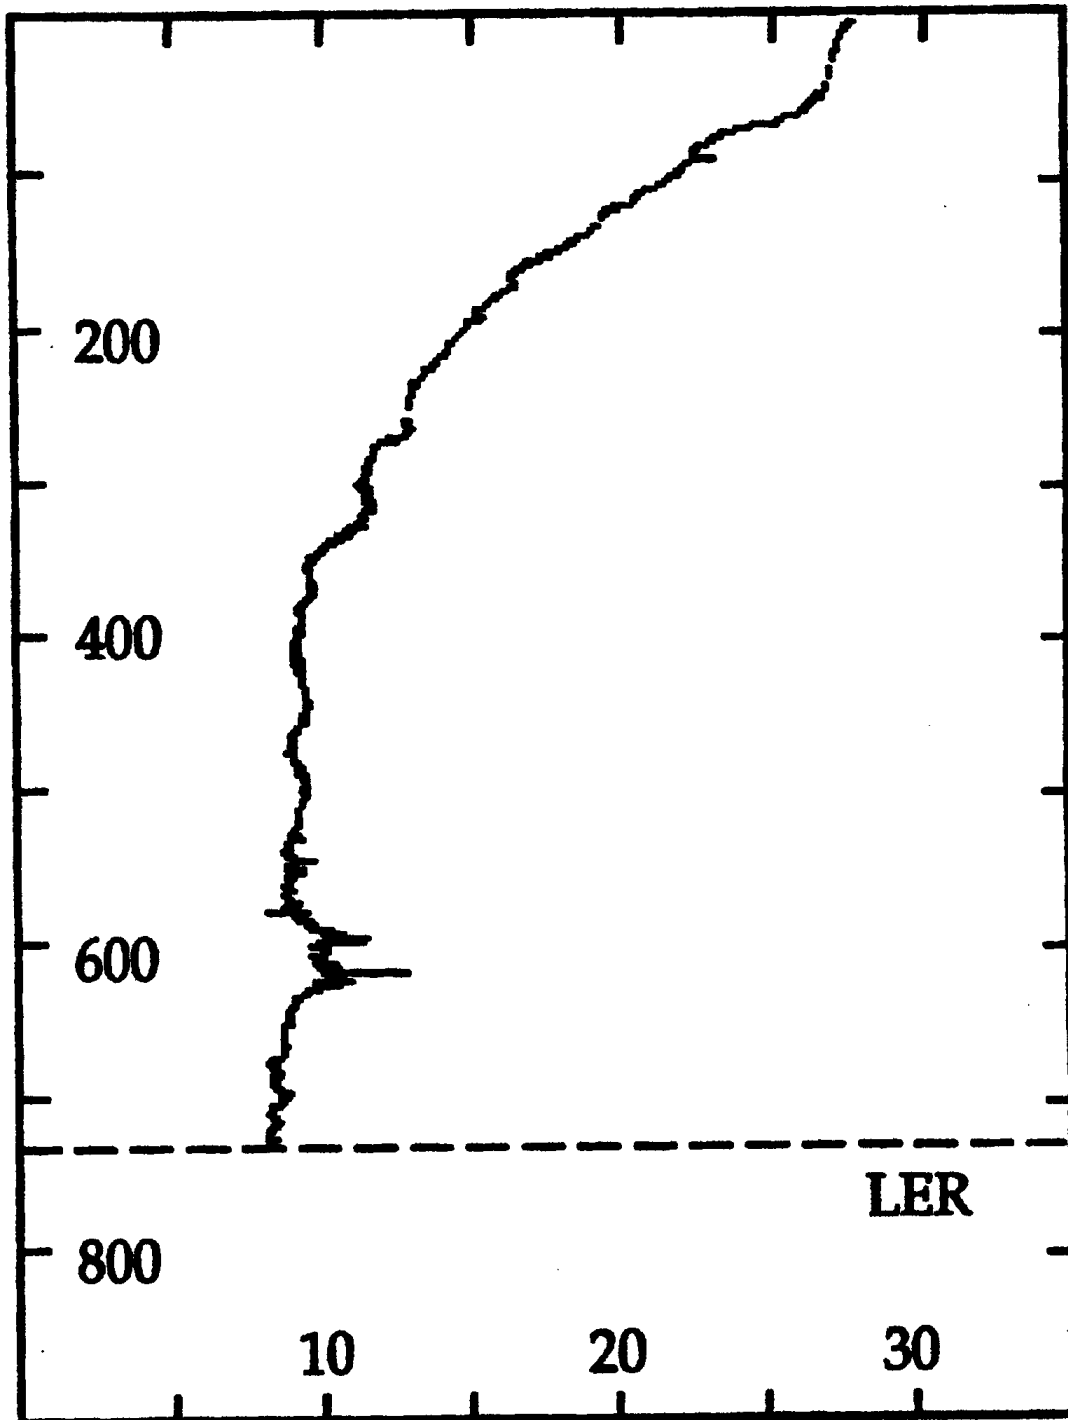

Figure 8g. Leakage Reject (LER)
- Fig. 8g:** The LER flag is used when leakage is observed as erratic, sharp and unrealistic structure over a range of depths or the entire profile.